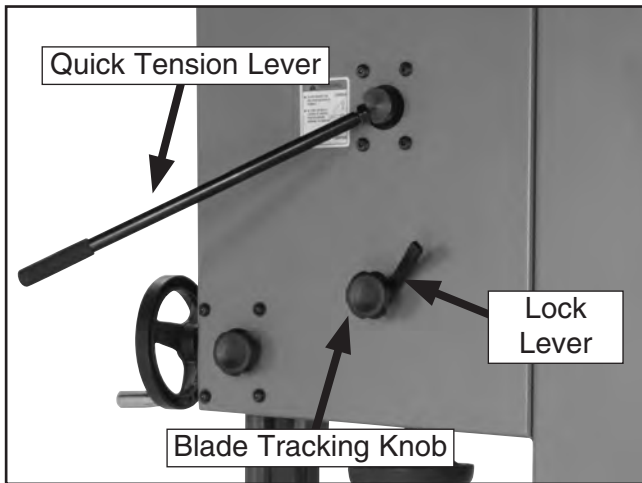

Figure 14. Blade tracking controls.
- Loosen lock lever (see **Figure 14**) so blade tracking knob can rotate.